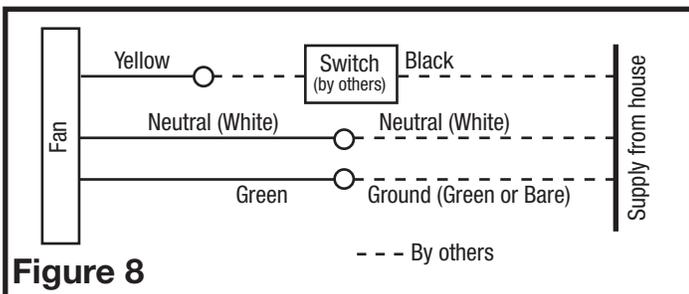

Figure 8
- 2b. From where you have chosen to access the fan's junction box, connect the white wire from the house to the white wire from the fan's receptacle. Connect the yellow wire from the fan to the wall switch. Connect the black wire from the house to the black wire from the fan's receptacle. Connect the ground wire from the house to the green wire from the fan housing (Figure 8). Use approved methods for all connections.